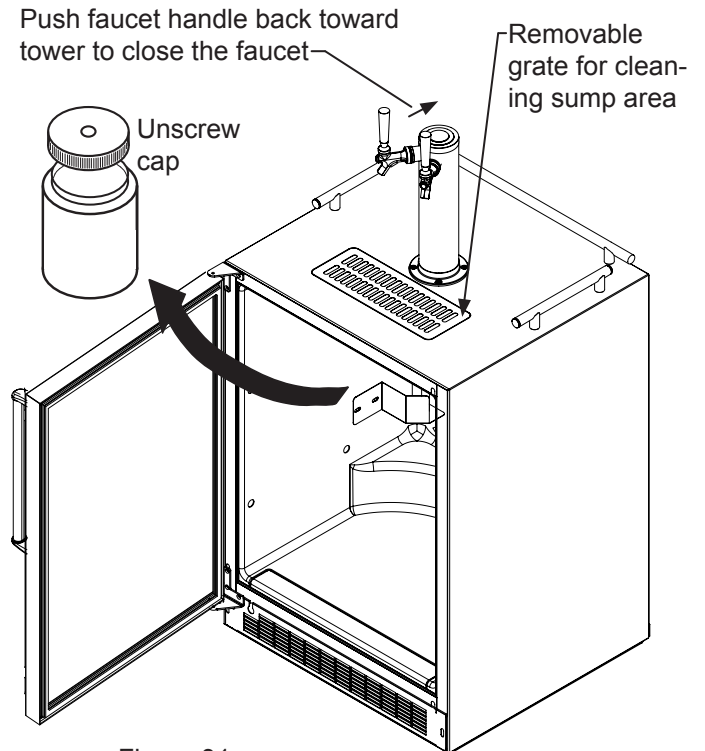

Figure 31
2. Be sure the faucet handle is closed on the tower (see Figure 31).
On a **free standing kegerator** remove the grate from in front of the tower, clean with soap and water and dry before reinstalling. Clean the sump area with soapy water and dry. (See figure 31).
Turn off the gas supply with the shutoff valve under the regulator (see Figure 31) and open the faucet to relieve the pressure. To remove the faucet from the tower use the spanner wrench provided. Place the pin on the wrench into the hole on the faucet collar and turn clockwise  $\odot$  to remove the faucet. (See Figure 35).